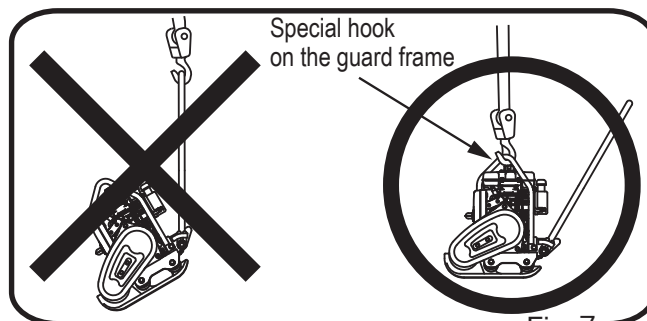

Fig. 7
- 3 When lifting, always use a special hook on the guard frame. (Fig. 7)